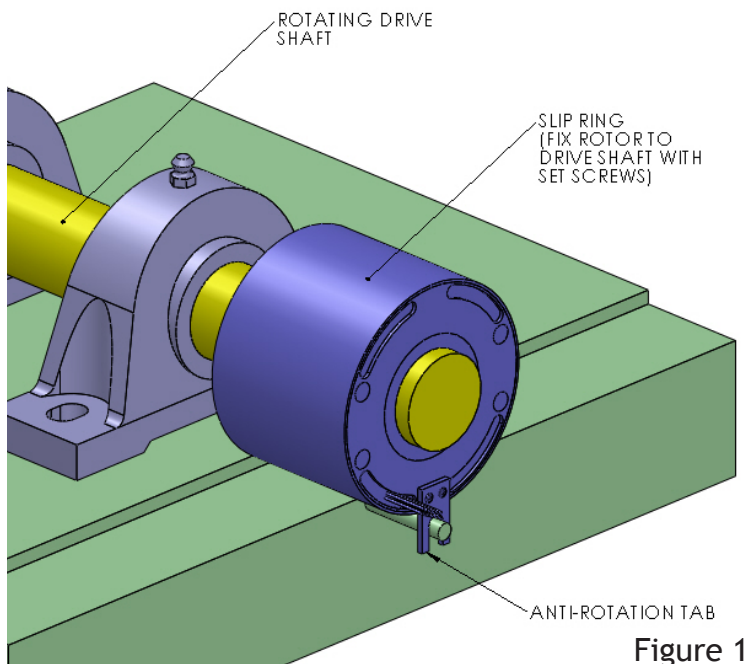

Figure 1
2. The rotor is secured to the rotating drive shaft that runs through the middle of the slip ring with set screws located on the slip ring's rotor. The anti-rotation tab (See Figure 1 and 2) should be fitted loosely over a stationary dowel to keep the body from rotating. Other than rotation, it should be free to move slightly based on variances in the alignment of the assembly.